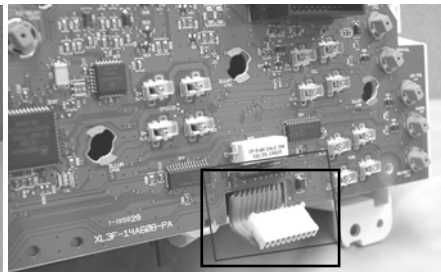

Figure 5
4. Disconnect the digital odometer cable from the circuit board by pulling the connector out from circuit board. (See figure 5).
9. Plug the odometer cable from the new Simco Instrument Module back into the circuit board connector (See previous figure 5).